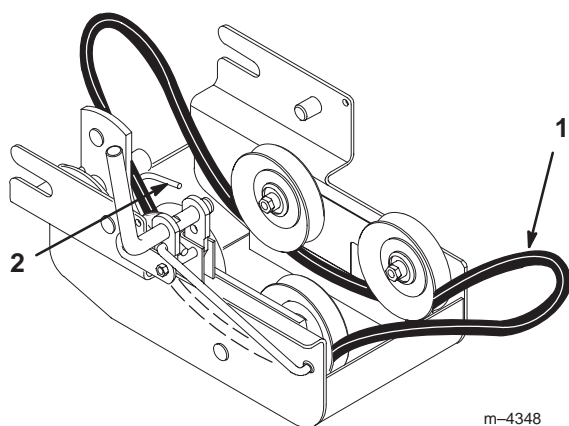

Figure 5
1. Route the belt under the four pulleys and inside the belt guide in the pulley box (Fig. 5).